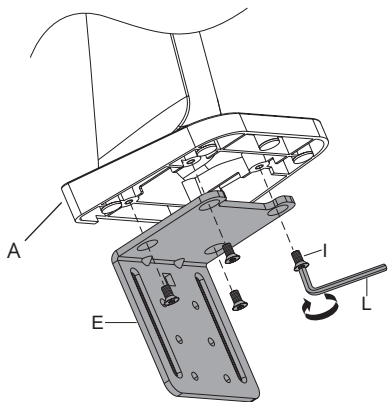
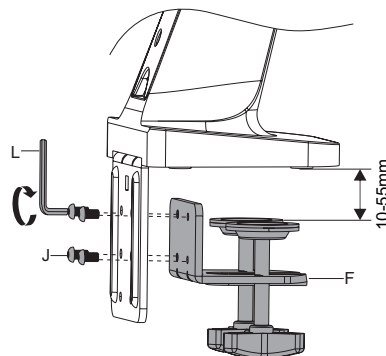

Figure 1
Figure 2A
1. Install the C-Clamp Brace (E) to the Extension Arm (A), secure them using Bolt (I) with Allen Key (L) turning clockwise until tight, see Figure 1.
2. Install the C-Clamp (F) to the C-Clamp Brace according to the thickness of your desktop.
- a) Desktops of 10mm-55mm thickness: Select the two upper mounting holes and secure them using Bolt (J) with Allen Key (L) turning clockwise until tight, see Figure 2A.